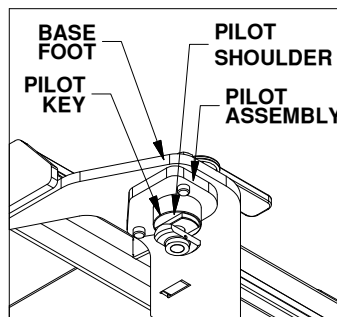

Figure B3: View under base foot
- The Slider base will mount to four attachment points in the truck bed. Remove any debris and/or obstructions from the truck bed, this includes any plastic caps which may be over the attachment points. Remove the latch pins from each of the four latching mechanisms on the base and rotate the handles out, see figure B1. Place the Companion base over the attachment points and carefully lower it until the pilot keys have passed through the slots in each attachment point and the pilot shoulders are resting flat against the top of the attachment points, see figure B3.